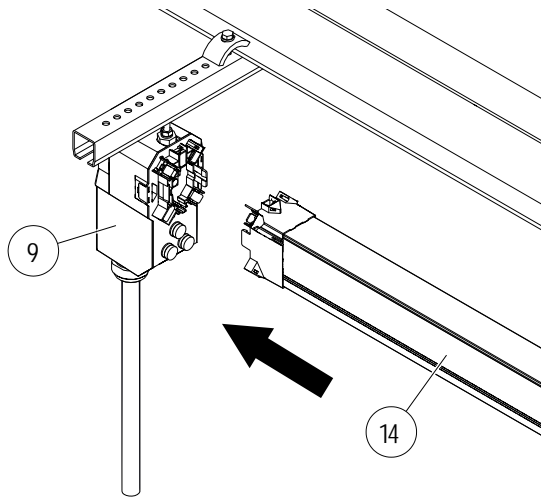
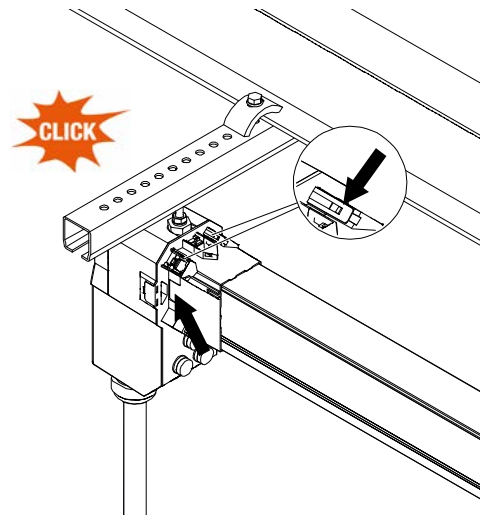

Fig. 52: Slide conductor rail (Pos. 14) onto end feed (Pos. 9)
Fig. 53: Click connector caps into place
- Slide the conductor rail (Pos. 14) onto the end feed (Pos. 9) so that the connector caps audibly click into place (see Fig. 52 and Fig. 53).